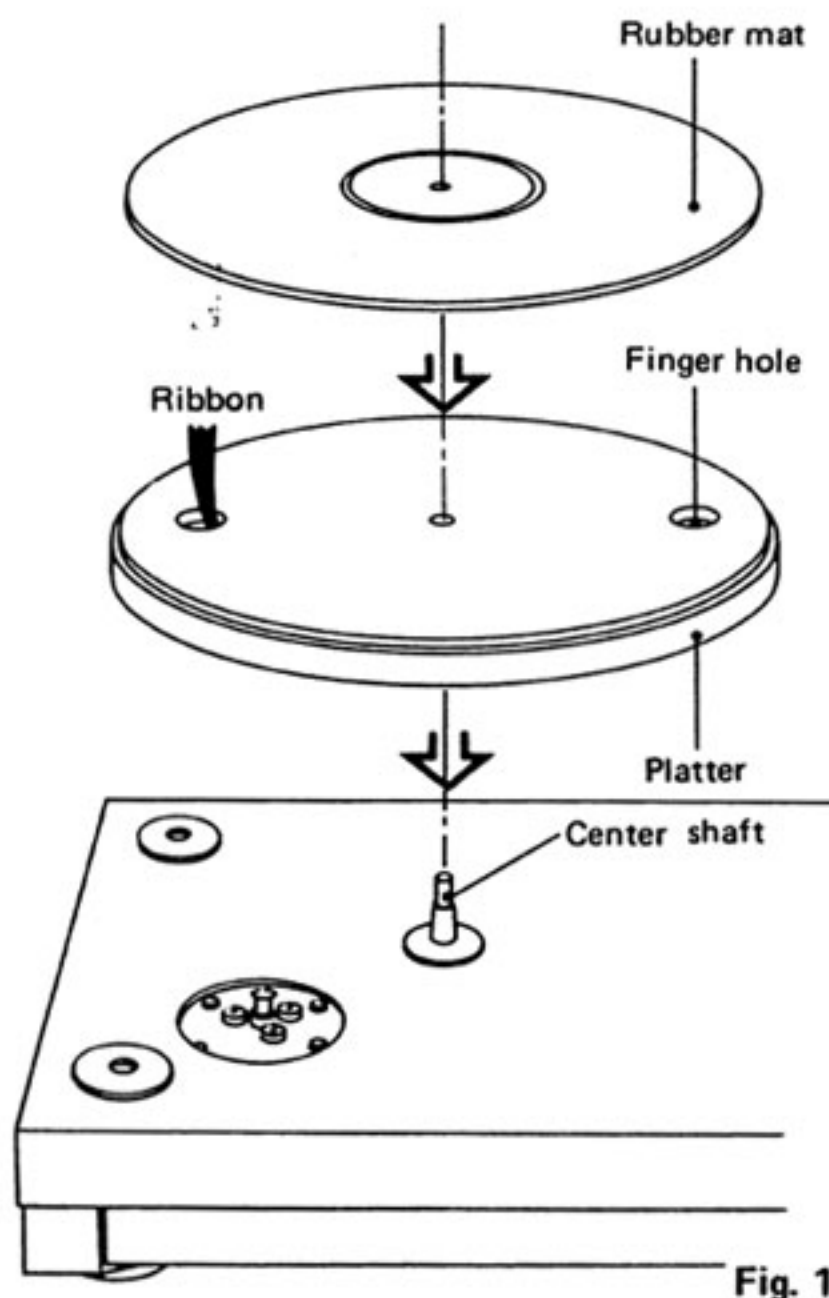

Fig. 1
1. Confirm that the belt is properly set on the drive surface in the platter. Pull a part of the ribbon out of the hole (Fig. 1) and fit the platter to the shaft.